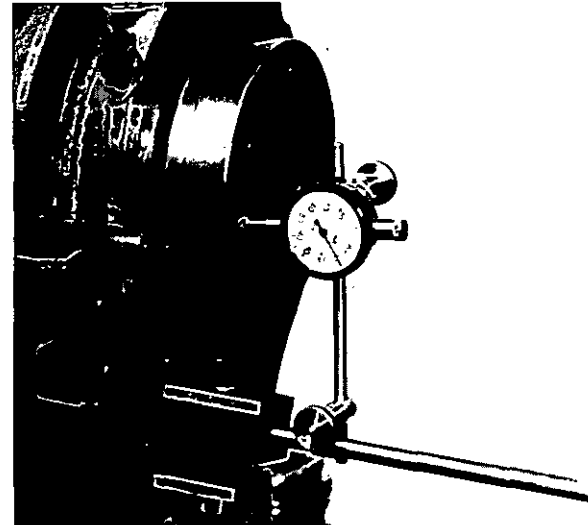

Fig. F.4
7. Bearing cap securing setscrews should be pulled down with a torque wrench set to tension given on page A.2. Check crankshaft end float (Fig. F.4).